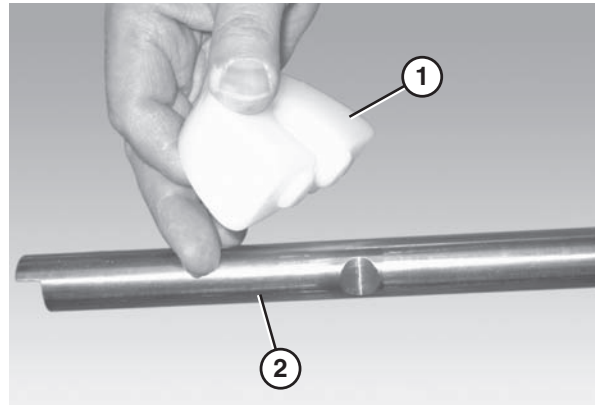

Figure 47
1. Attach the chain return shoes (**Figure 47, item 1**) to the return shaft (**Figure 47, item 2**).